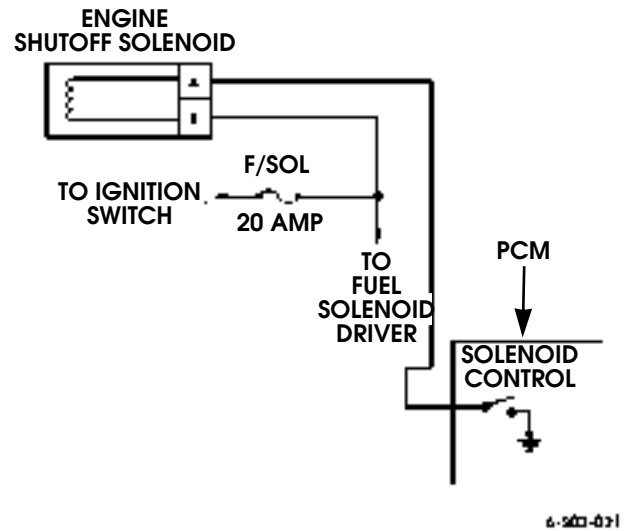

Figure 3-12: Engine Shut-Off Solenoid Circuit
A shut-off solenoid failure can result in run-on, or a no start condition. The failure may be with the solenoid, or with the related wiring (Figure 3-12).
4. If the solenoid does not activate, perform wiring tests with a DVOM (Figure 3-12).